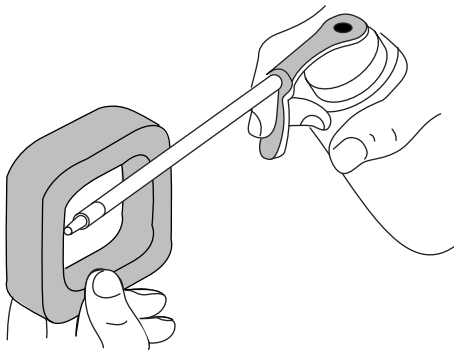

Fig. 58
4. Apply enough clean SAE 30 motor oil to lightly coat the filter (Fig. 58).